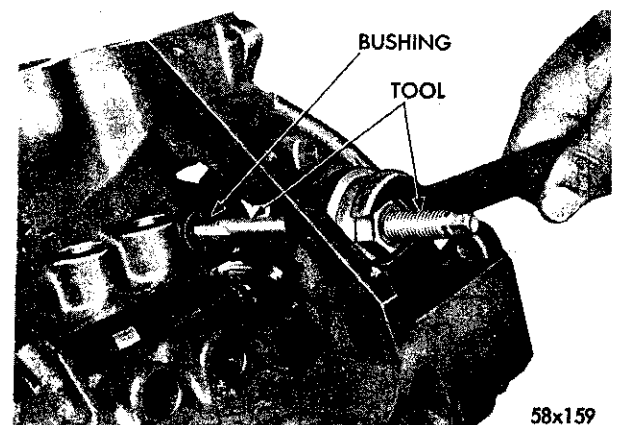

Fig. 31—Removing the Distributor Drive Shaft Bushing Using Tool C-3052
- (1) Insert Tool C-3052 into the old bushings and thread down until a tight fit is obtained (Fig. 31).
- (2) Hold the puller screw and tighten puller nut until the bushing is removed.